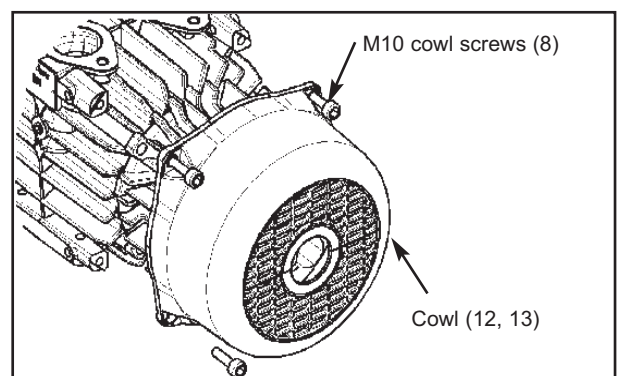

Figure 29
7. Install both cowls (12 and 13) over the fans with the M10 cowl screws (8). Torque cowl screws to 26 lbs ft (35 Nm). ; See figure 29.